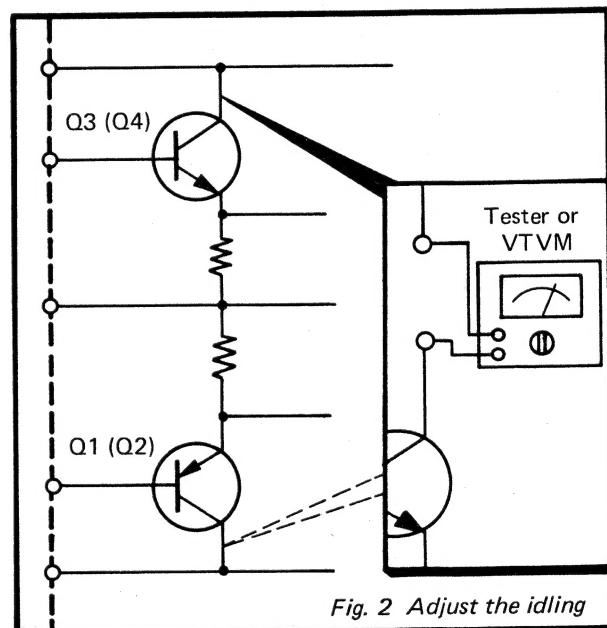

Fig. 2 Adjust the idling
4. Before checking the idling current, turn on power switch in a few minutes, adjust the variable resistor (VRq 3,4) so that tester (or DC VTVM) coupling to the collector of transistors indicates 50 mA (Fig. 2). At the same time check the waveform to be correct (Fig. 3). Not getting the correct waveform on oscilloscope, check the collector current of each transistors. Because transistor of other channel is broken down.